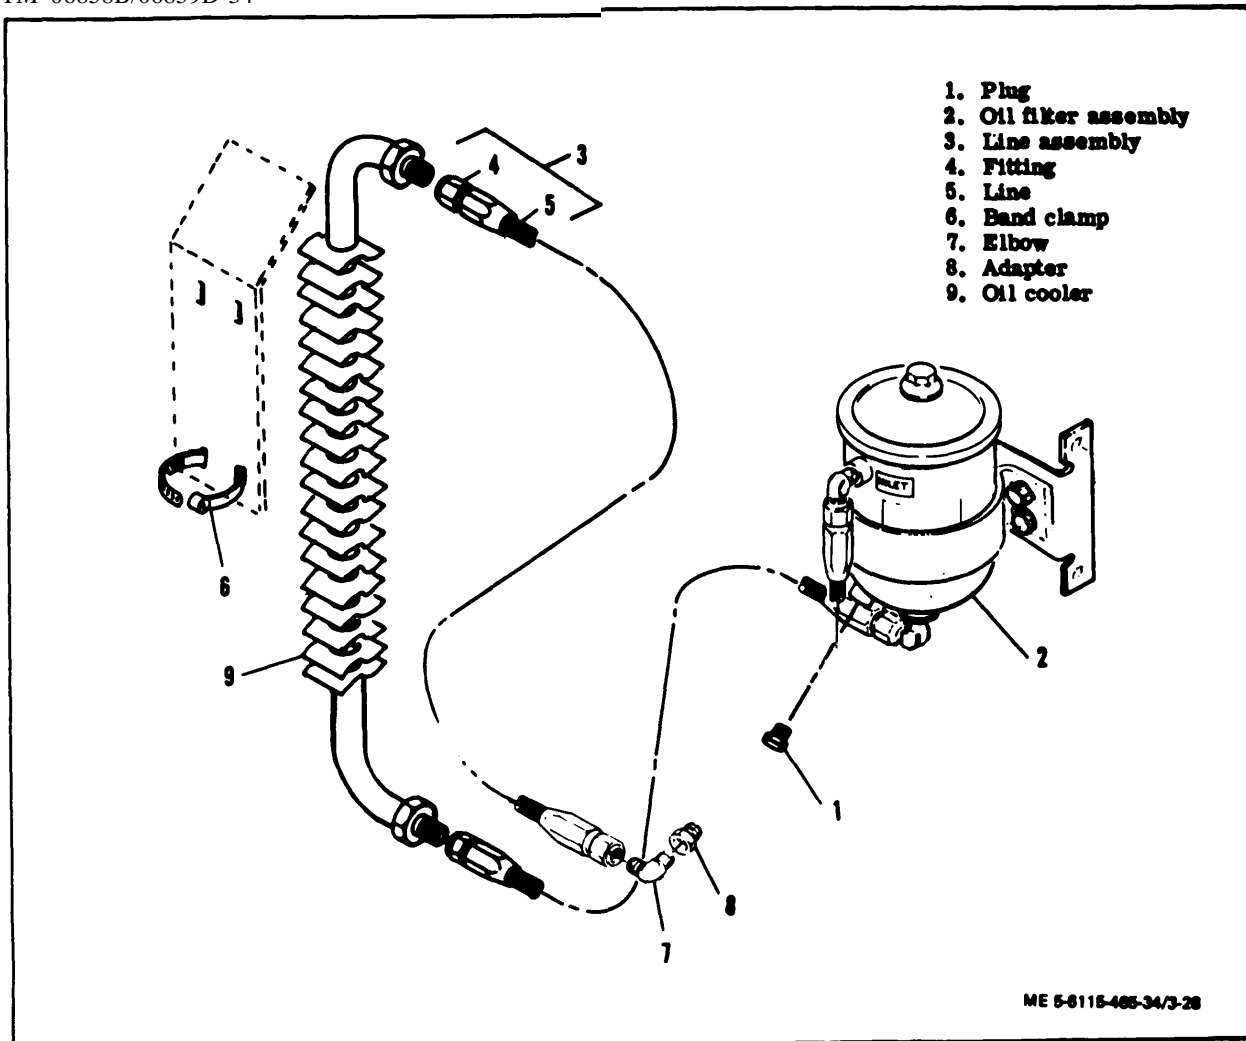

Figure 3-28. Oil Cooler Assembly Removal and Installation
(1) Refer to the Operator and Organizational Maintenance Manual and drain the engine lubrication system.
(2) Remove the plug (1, figure 3-28) from the oil filter assembly (2) and allow the 011 to drain into a suitable container.
(3) Disconnect hoses (3) from the oil cooler assembly.
(4) Open band clamps (6) and remove oil cooler assembly (7).